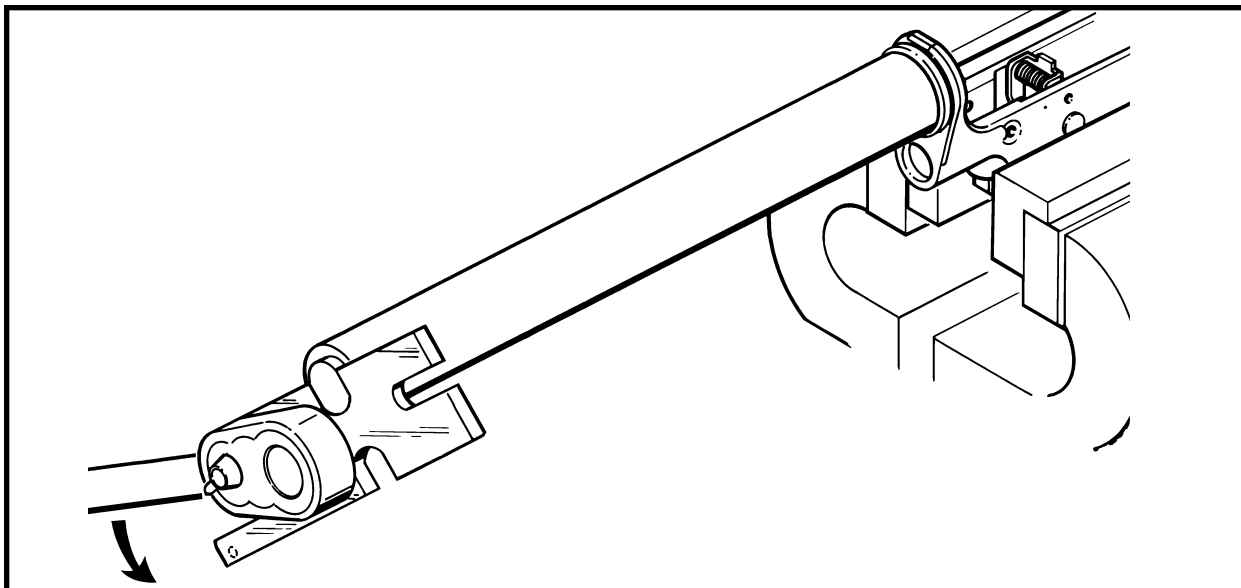

Figure 3-2-52 Unscrewing the Receiver Extension
- b. Using the combination wrench and a 1/2 inch drive ratchet, unscrew the receiver extension in a counter-clockwise direction. See Figure 3-2-52; and